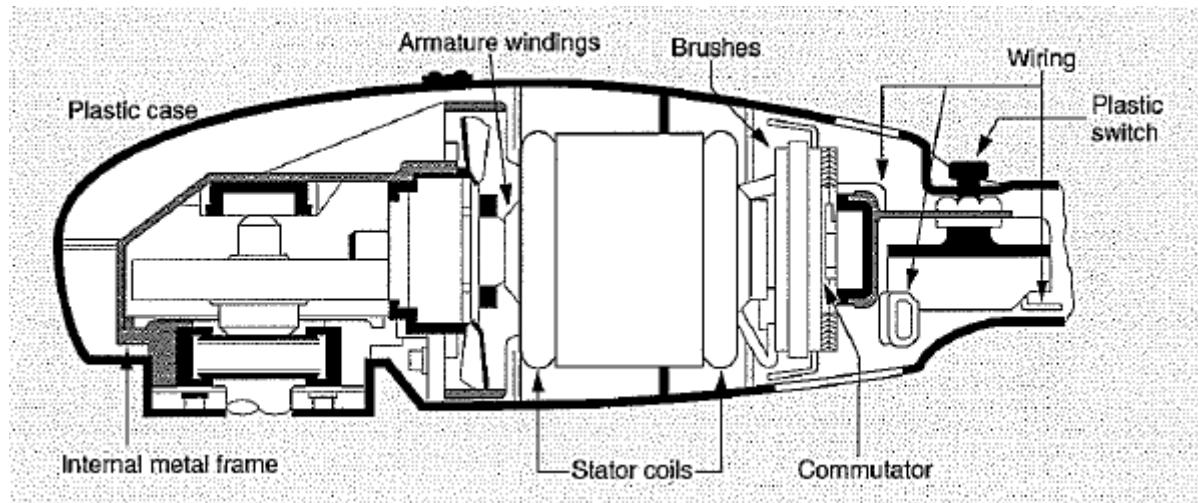

Figure 3.6: Power Tool with Functional Insulation
- 3-28 Double-insulated tools have an additional, independent insulation system called *protective insulation*. The extra insulation protects the operator against electric shock if the functional insulation fails. The double-insulated tool in Figure 3.6, has an armature construction similar to that of a conventional tool. The motor assembly is mounted in a metal skeleton frame that is housed in a plastic, non-conducting case. The housing of the switch is also plastic. If a metal case is used, it has a plastic liner that isolates any metal parts that might become energized if the functional insulation fails. In addition, the tool shaft or arbor is fitted with an insulating sleeve. Double-insulated tools must be kept clean and dry. If you use them, handle them carefully so the insulation is not damaged and always inspect them before use.